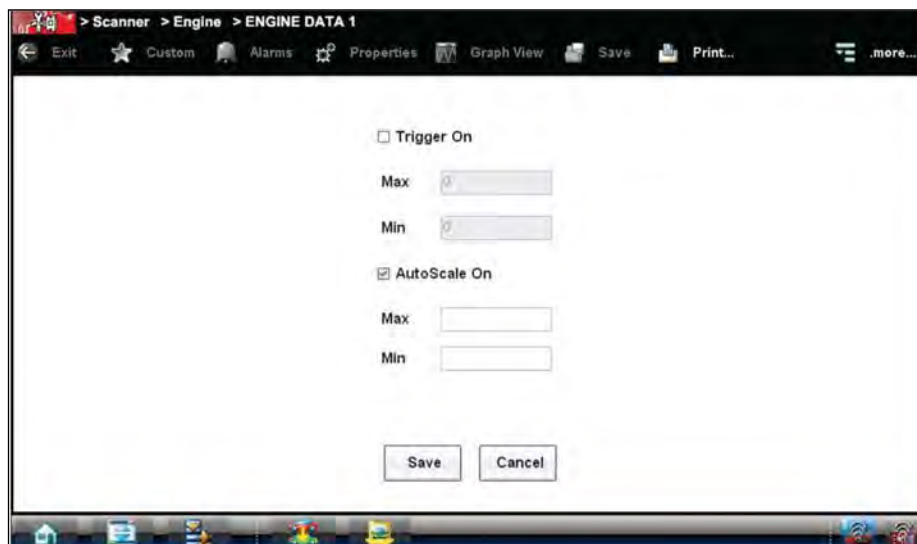

Figure 4-28 Sample manual scale selection
2. From the Graph Properties dialog box (Figure 4-28), select **Auto Scale On**.